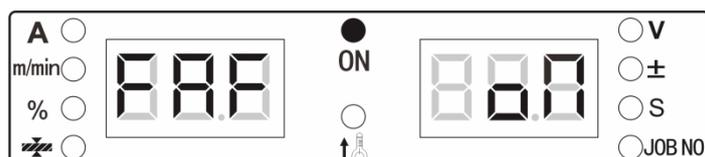

Fig. 4-9 FAF display interface
1. Enter the internal menu and find **FAF** by turning the knob. The digital meter is as displayed in Fig. 4-9.